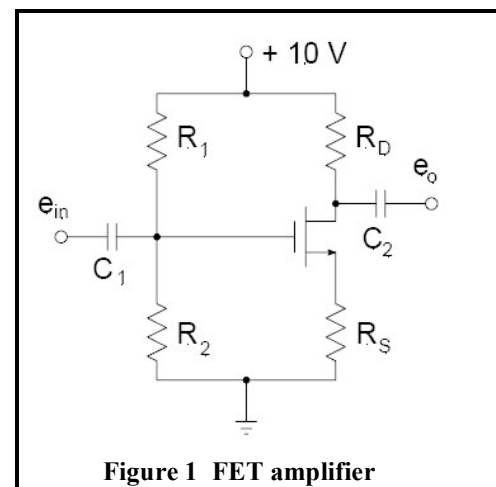

Figure 1 FET amplifier
Preparation: Prior to the lab, **design** a FET amplifier (Figure 1) with a **voltage gain** $A_V = -5$. Design for $V_{DD} = 10$ V, $I_D = 5$ mA, $V_{DS} = 5$ V, and $R_{in} > 100$ k Ω . Assume $V_{GS} \approx 3$ V.
1. Construct the amplifier, using an IRFD110 FET and other components indicated in Figure 1. Use 250 k Ω variable resistor (potentiometer or decade box) for R_2 , set to the calculated value before connected to the circuit. **Do not connect a signal generator and the capacitor C_1 to the input yet.** Adjust R_2 (if necessary) until I_D is approximately 5 mA. Once this has been accomplished, make note of the new value of R_2 and I_D , V_{DS} , V_G , and V_{GS} . You may now remove the ammeter (used to measure I_D) and any voltmeters. Connect capacitor C_1 and then